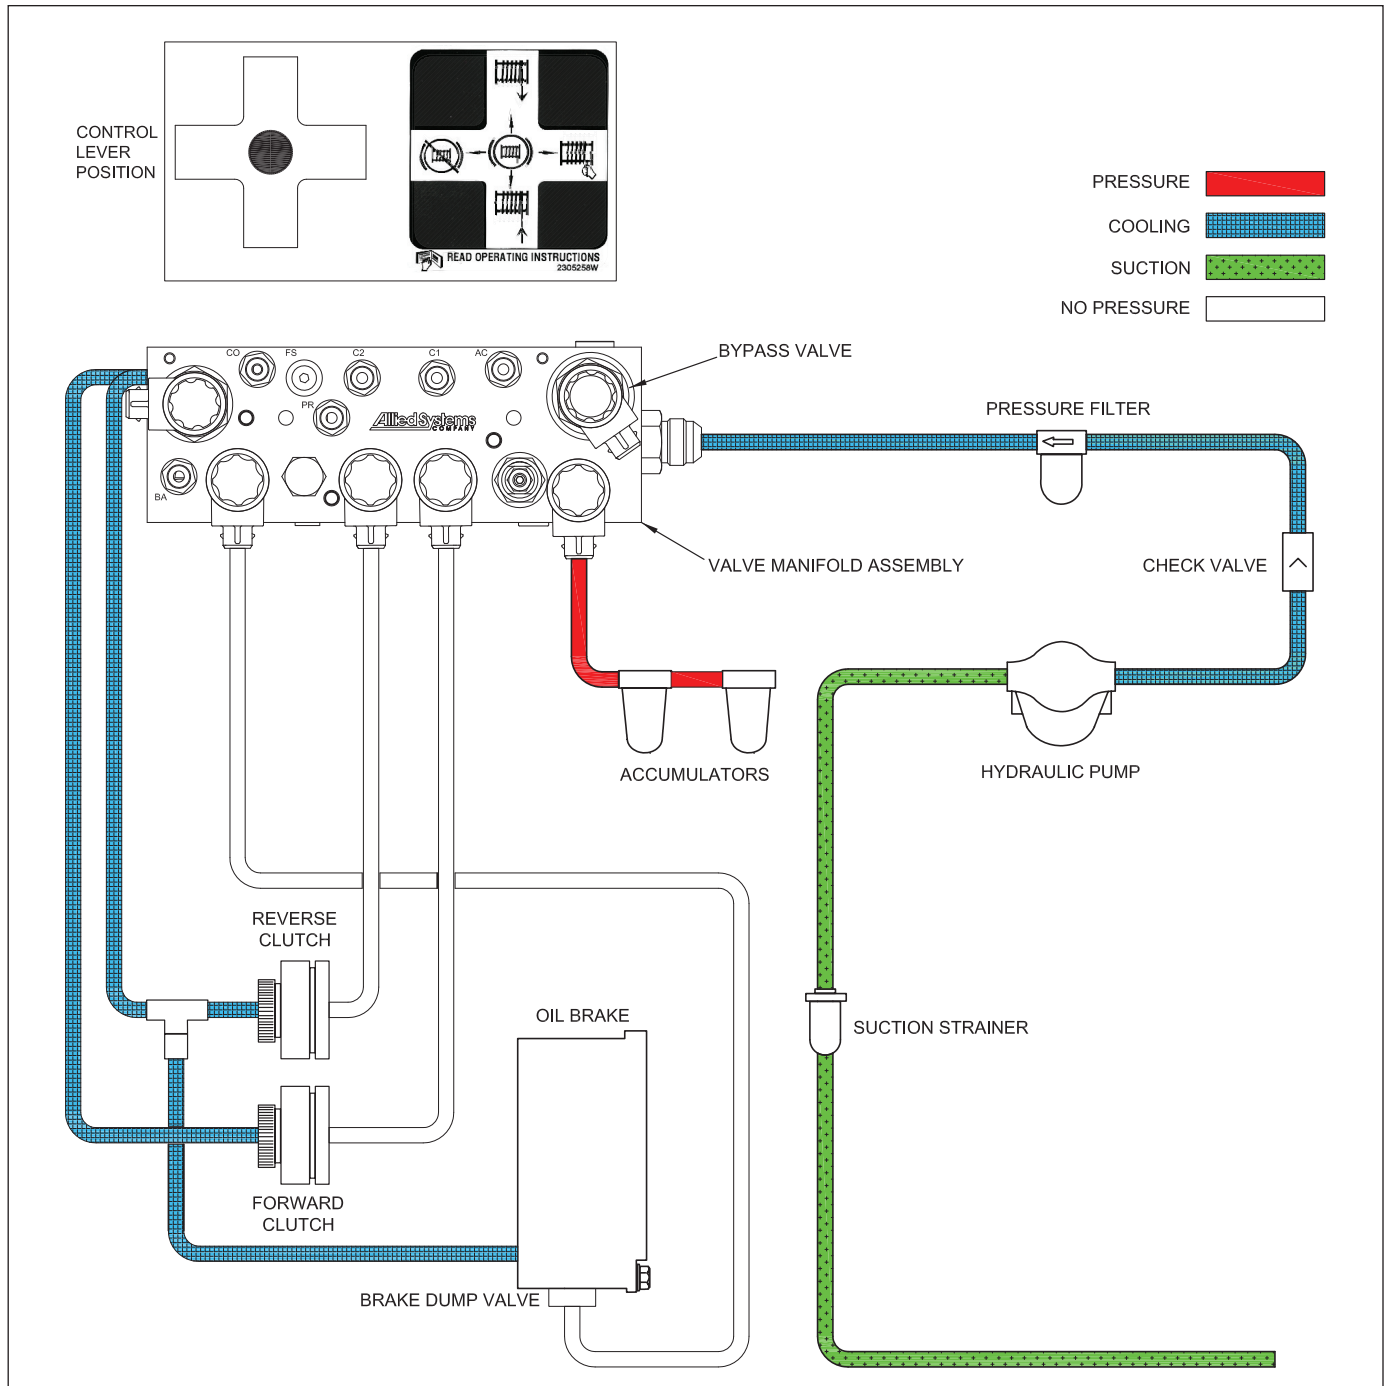

Figure 3-10 Hydraulic System, BRAKE-ON (Neutral)
**NOTE:** Figures 3-10 through 3-13 show the sequences of operation for the new type of manifold (See Figure 3-5).